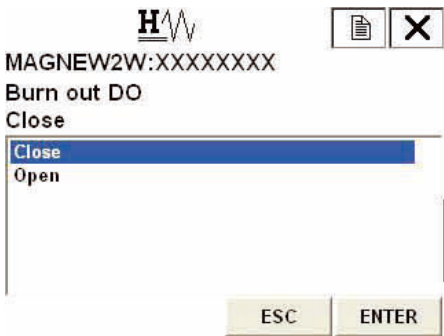

Figure 7-40
Figure 7-40 will then be displayed.
2. Once the display as shown in Figure 7-40 appears, move the arrow key up or down to select OPEN or CLOSE. After making a selection, press F4 (ENTER). If F3 (ESC) is pressed here, the selection will be canceled and the display will return to the Digital output menu.